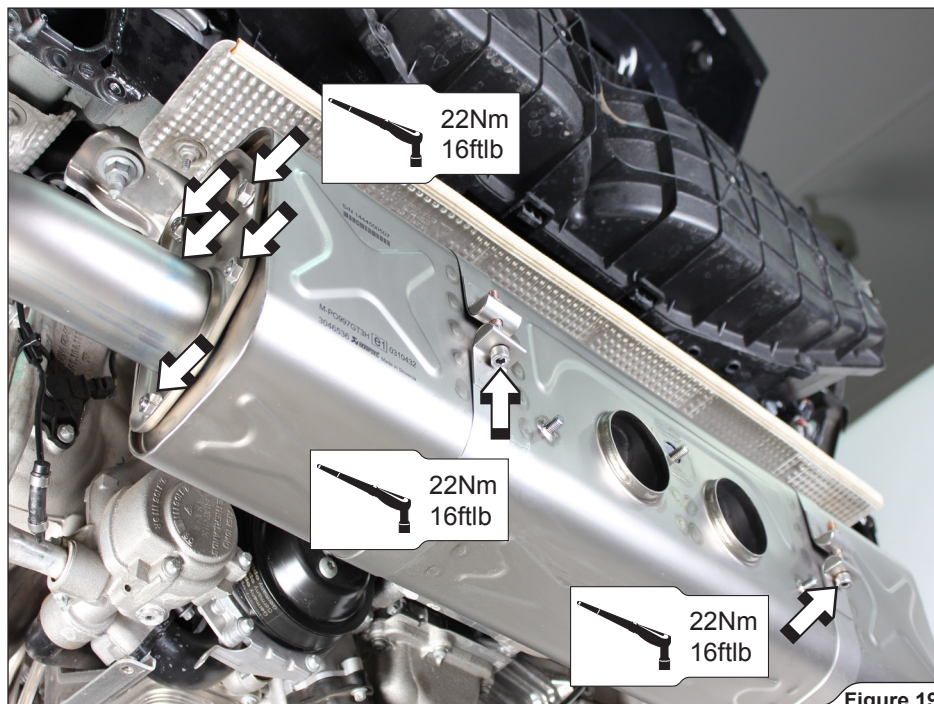

Figure 19
- Align and center Akrapovič muffler in respect to the vehicle and tighten the central muffler clamps, flange nuts and stock clamps to the specified torque, on both sides of the vehicle (Figure 19, 20).